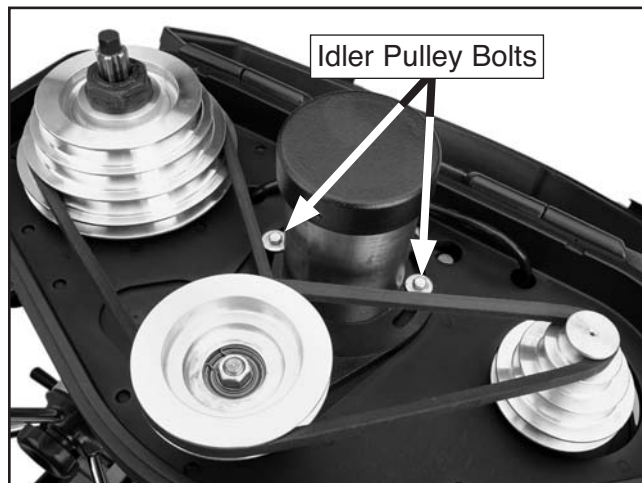

Figure 33. Pulley system.
2. Loosen the two idler pulley bolts that hold the center pulley system in place, so the pulley will float (**Figure 33**).